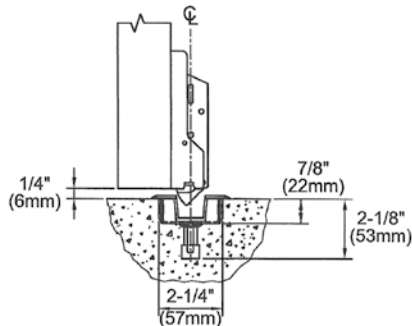

Figure 6
4. Install bottom strike into finished floor or threshold, and be sure to align center line of bottom latch with center of bottom strike. (See Figure 6)